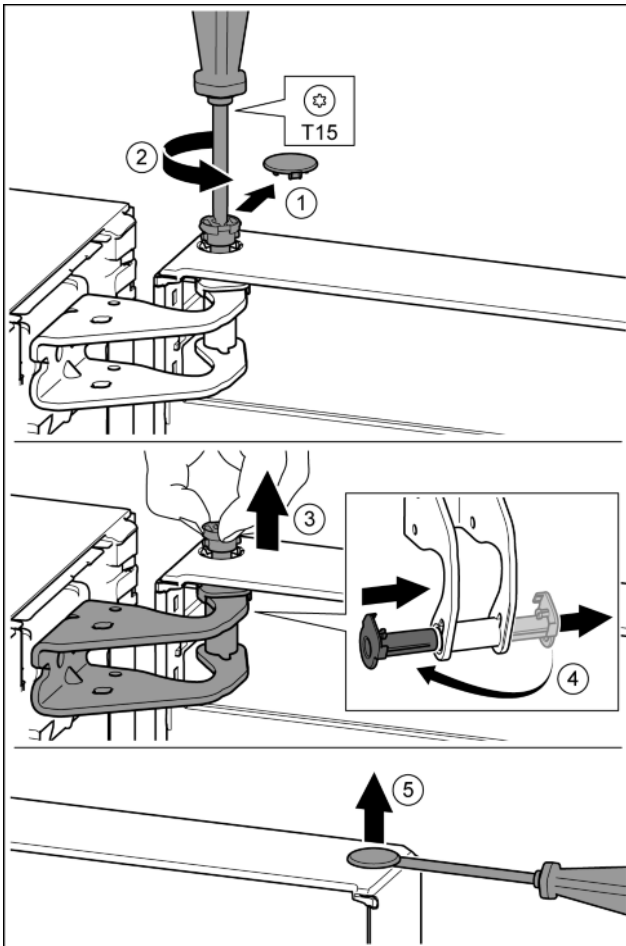

Fig. 12
- ▶ Carefully remove the protective cover. Fig. 12 (1)
- ▶ Undo the bolt a little with a T15 screwdriver. Fig. 12 (2)
- ▶ Hold the door and remove the bolts with your fingers. Fig. 12 (3)
- ▶ Pull the bearing bush out of the guide. Insert from the other side and click into place. Fig. 12 (4)
- ▶ Carefully lift the plugs out of the door bearing bush with a slotted screwdriver and remove. Fig. 12 (5)